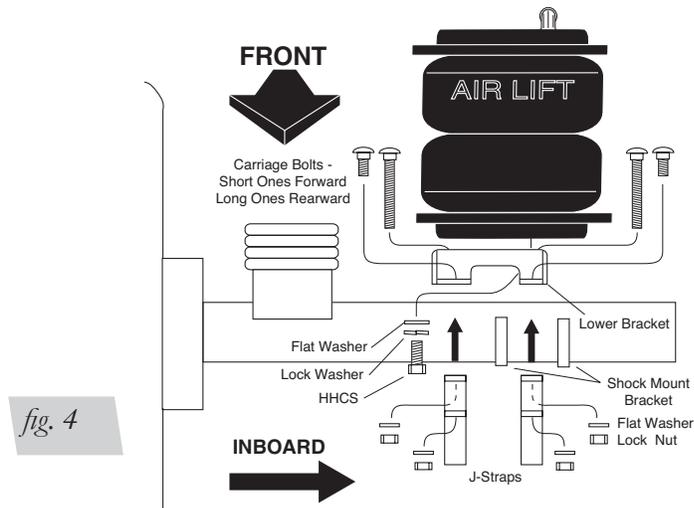

fig. 4
- On the shock absorber side of the lower bracket, the J-strap will fit between the installed shock and the axle housing. It is not necessary to remove the shock absorber. Loosely assemble the lower straps. Use the short carriage bolts on the shock side (Fig. 4).